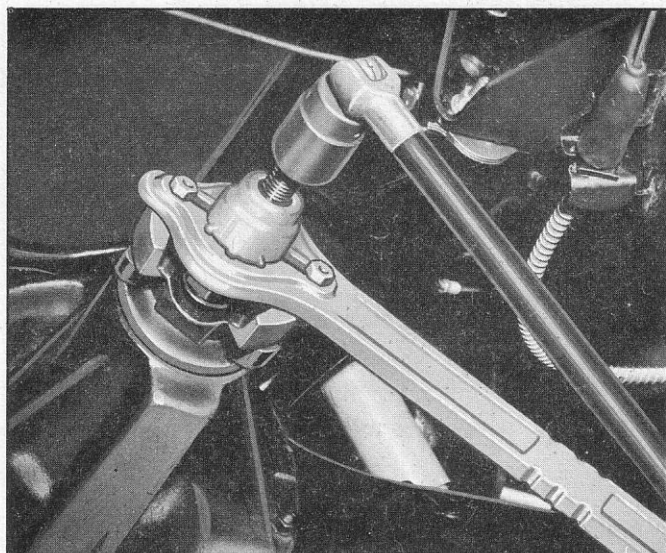

Fig. 16—Removing Companion Flange—J-8614 Shown
5. Remove drive flange using Tool J-8614-1-2 or J-2637 (fig. 16). Pry old oil seal out, using a screw-driver or hammer and chisel.